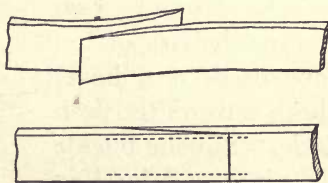

FIG. 236. — SPLICING A STRAP.
- (1) That thread of a kind and strength suited to the nature of the work be selected.
- (2) That the thread be smooth, well twisted, and well waxed.
- (3) That the stitches all be drawn equally tight, and made firm without cutting the leather.
- (4) That the needles be used in the right way.
- (5) That the awls be correctly used.
- (6) That the stitches be of equal length.
- (7) That the holes be of equal size and angle.
**Splicing.** — In splicing, it is necessary to shave the two ends to be joined down to a thin edge, Fig. 236, with the round knife. Then stitch along each edge, fastening the threads at the ends. In mending a broken tug, if the break occurs at any place other than where the cockeye is fastened, it should be done by splicing, as shown in Fig. 236. If the